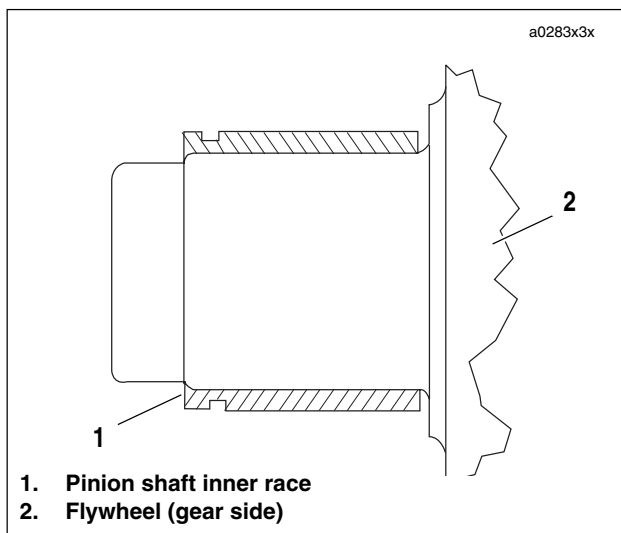

Figure 3-122. Inner Race Location
7. See Figure 3-122. Pull inner race from pinion shaft using WEDGE ATTACHMENT for CLAW PULLER (Part No. HD-95637-46A) with BEARING RACE REMOVER/INSTALLER (Part No. HD-34902B) and END CAP (Part No. HD-34902-7). Apply heat to race to aid removal.